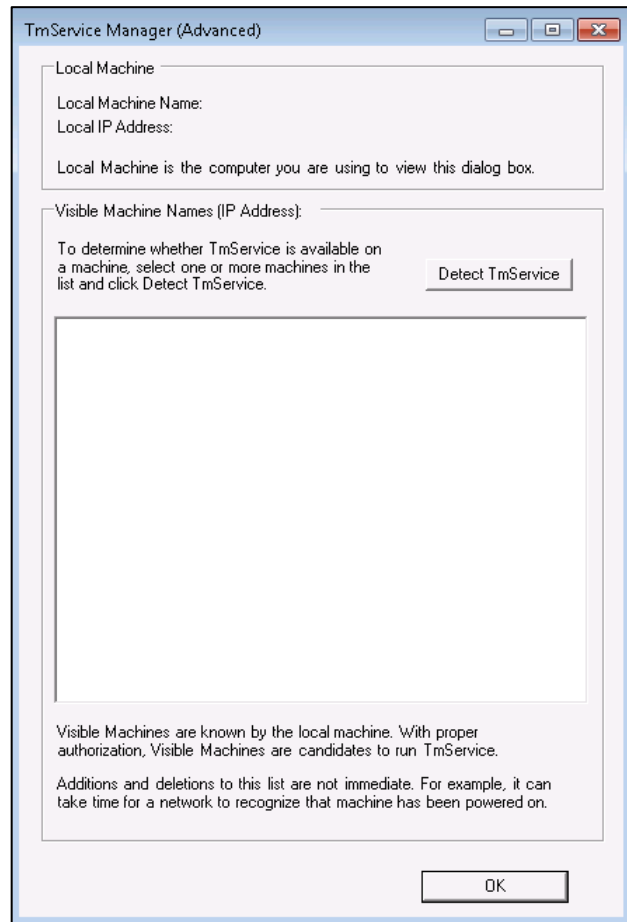

Figure B-2 TmService Manager (Advanced) Dialog Box
6. Click *Advanced* to open the *TmService Manager (Advanced)* dialog box (Figure B-2). The *Visible Machines* list displays computers and their IP addresses that are accessible to the local machine over the network.